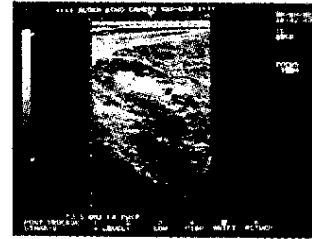

Fig. 6-4-31
- c. When the range is shifted upward using SHIFT from the LEVEL menu, the display becomes as shown in Fig. 6-4-31.